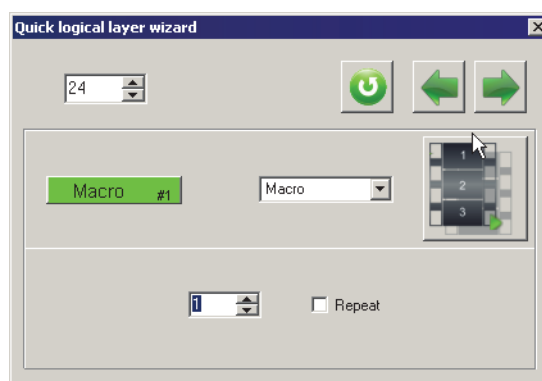

Fig. 5.11.
**Quick logical layer wizard** dialog for this function is shown on Fig. 5.11.